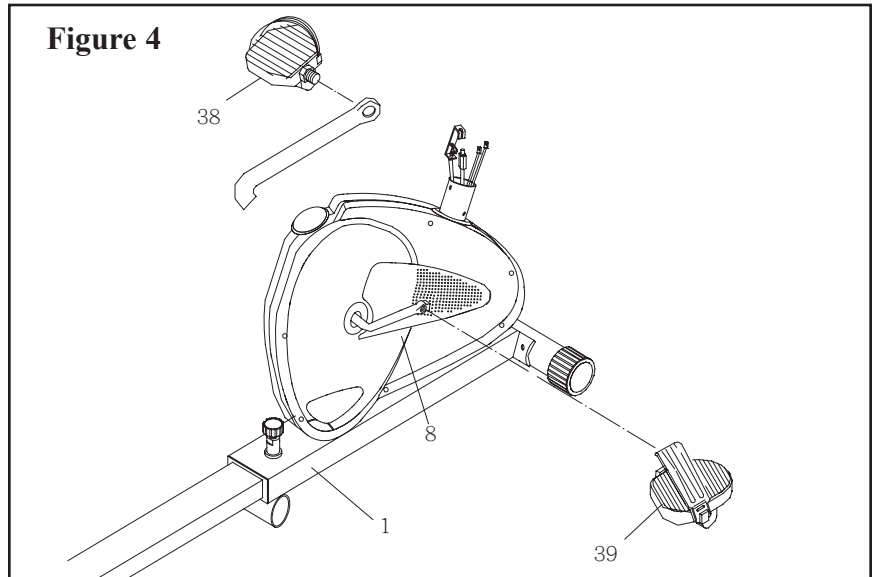

FIGURE 5
Insert the sensor wire (packed with tension controller) from the top of the handlebar post (75). Connect the wires per Figure 5.